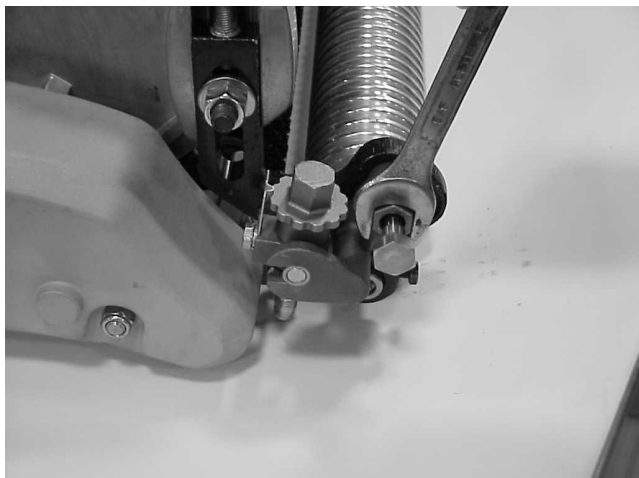

Figure 29
- Rotate the arms up or down (Fig. 29).